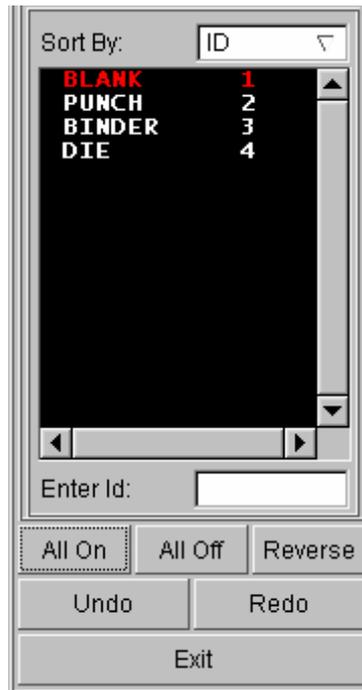

Figure 2.48 Turn parts on/off dialog box
4. In Part Operation dialog, use your mouse cursor to click on all the parts, excluding BLANK, as illustrated in Figure 2.48. All the tools are hidden from the display area. Then, press **Exit** button to dismiss the dialog box.